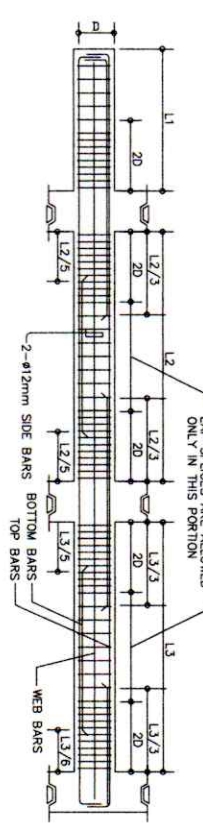

FIG. B-1
- TYPICAL BAR BENDING AND CUTTING DETAILS FOR BEAMS SHALL BE AS SHOWN IN FIG. B-1.